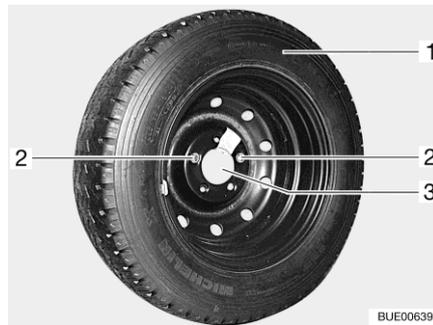

Fig. 310 Spare wheel support in the rear garage
- Loosen and remove both fixing screws (Fig. 310,2) with the on-board tool set.
- Remove the spare wheel (Fig. 310,1) from the support (Fig. 310,3).